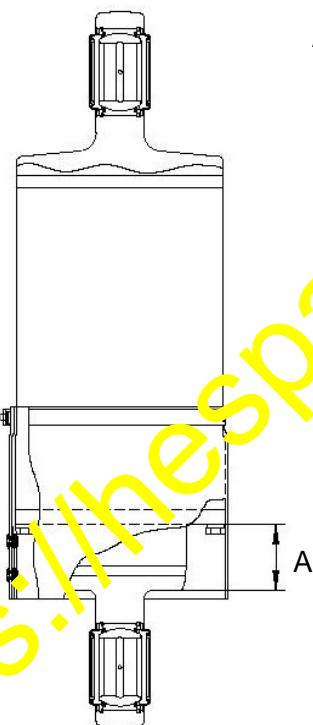

Fig. 14
- 9) Remove the jack and carry out suspension gas adjustment. (Refer to Fig. 14.)